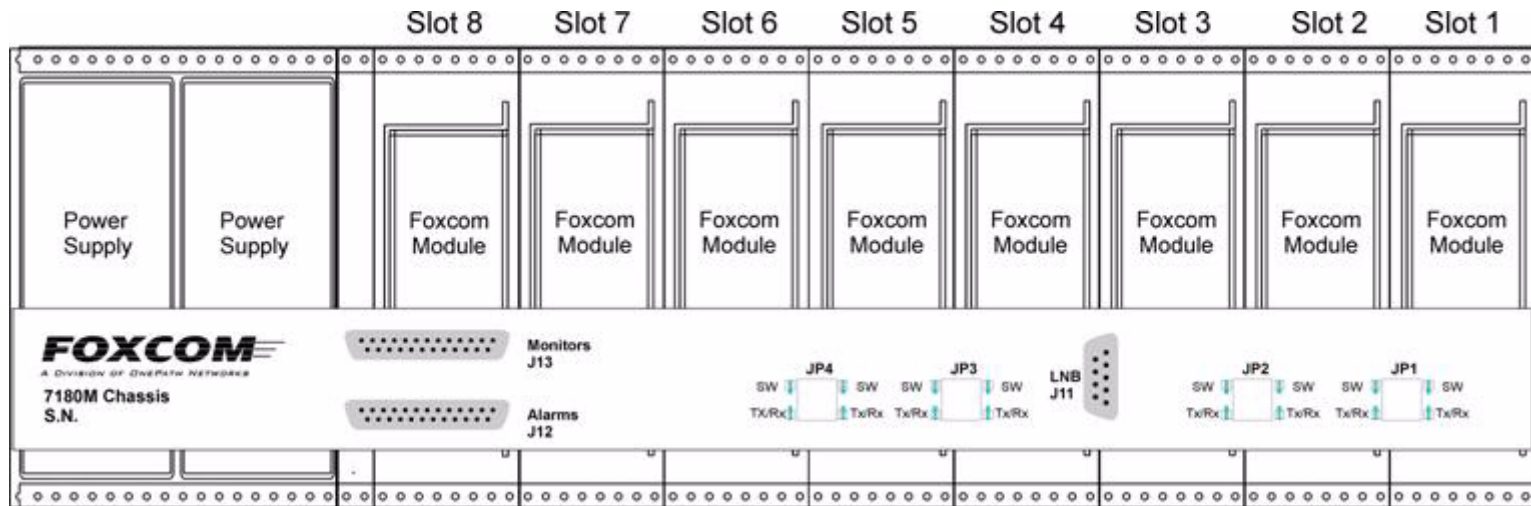

Figure 7 7180M Chassis Rear View
1. Place the **7870R** Receiver in any of the 7180M Chassis, unless a 2040 RF Switch is installed. (See **Figure 7 7180M Chassis Rear View** on page 12.)